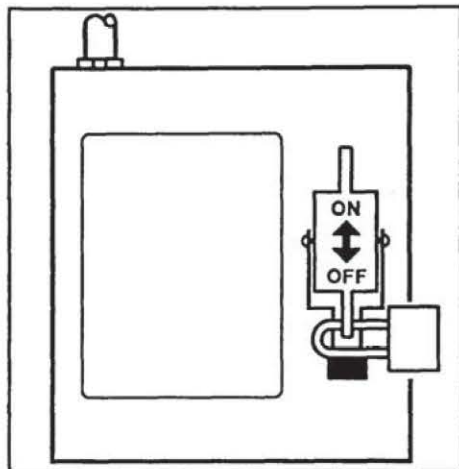

Figure 3.8 - Disconnect and lock out input power
**WARNING:** Risk of electrocution. The AC input power line to the PC40 provides voltage that can cause personal injury or death. Before making any electrical connections, disconnect and lock out power to the main circuit breaker for the input power line (Figure 3.8).
**WARNING:** Risk of electrocution. The AC input power line to the PC40 provides voltage that can cause personal injury or death. Before making any electrical connections, disconnect and lock out power to the main circuit breaker for the input power line (see Figure 3.8).